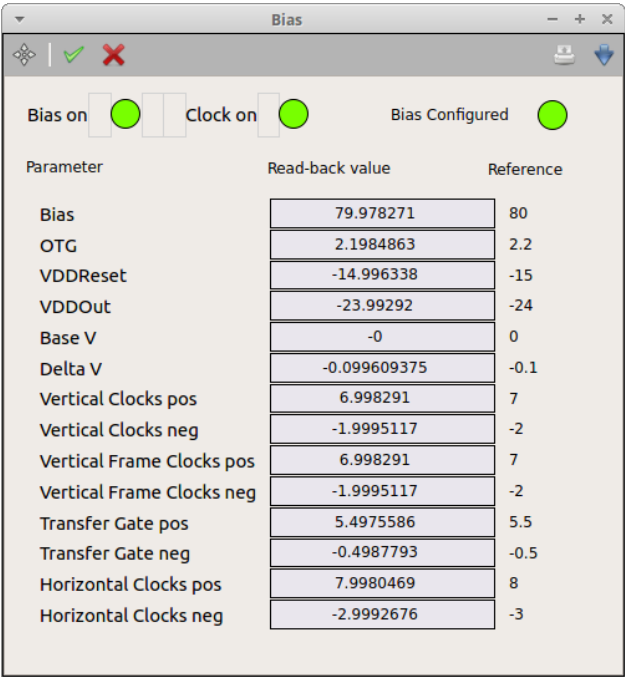

Fig. 3.3: The Bias scene with all read-back values matching the reference.
**Bias:** This scene is required to check that the correct voltage settings have been received every time the “Send Bias file” button is pressed, see Fig. 3.3.